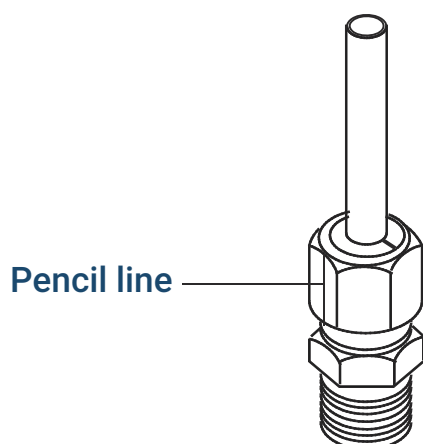

Figure 56. Marking the fitting
6. Mark the nut with a pencil line. See **Figure 56**.